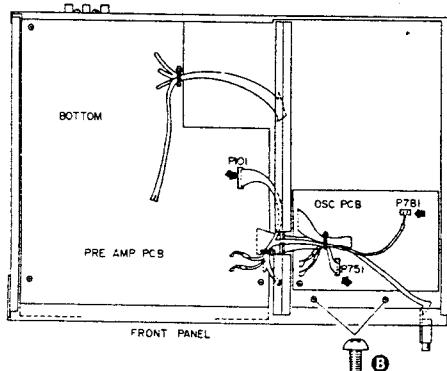

Fig. 3-4
- 1) Remove connector P101 from the PRE AMP PCB and the P751 and P781 from the OSC PCB. Next, remove mechanism block securing screws ① (Refer to Fig. 3-4)